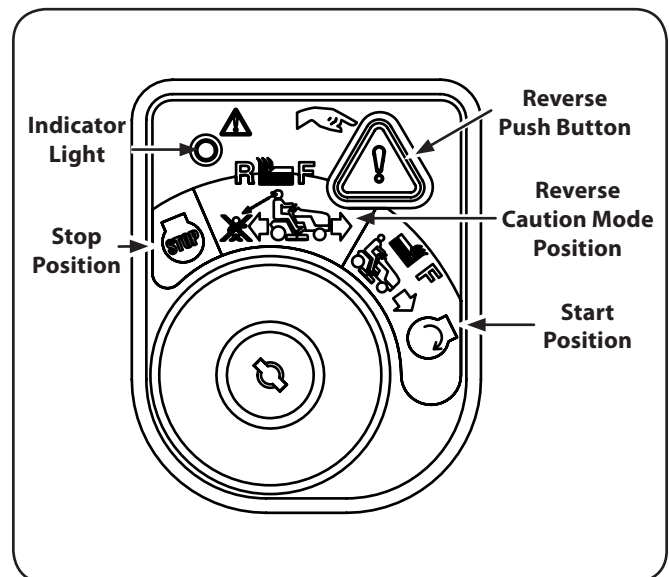

Figure 5-9
2. Turn the key from the NORMAL MOWING (Green) position to the REVERSE CAUTION MODE (Yellow) position of the key switch module. See Figure 5-9.
3. Press the REVERSE PUSH BUTTON (Orange, Triangular Button) at the top, right corner of the key switch module. The red indicator light at the top, left corner of the key switch module will be ON while activated. See Figure 5-9.